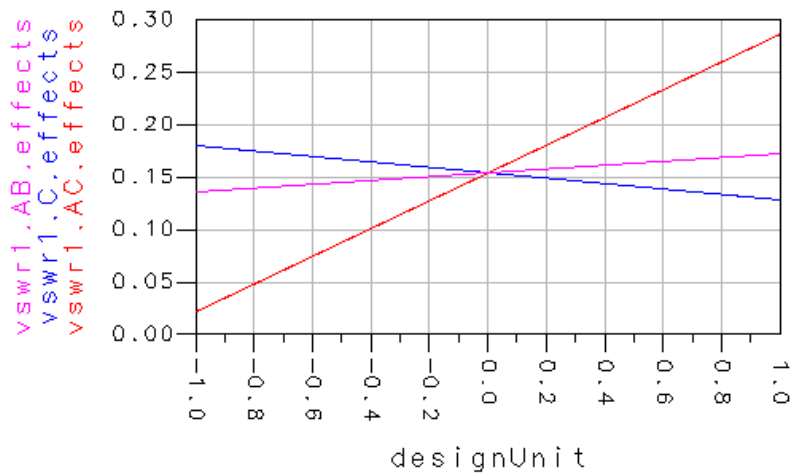
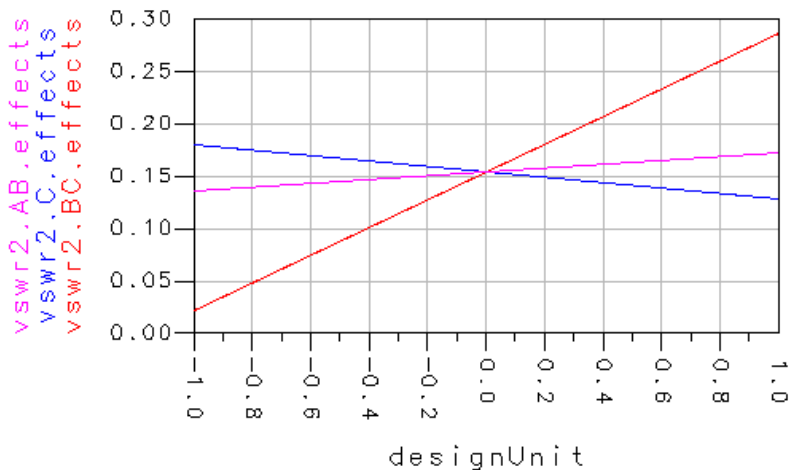
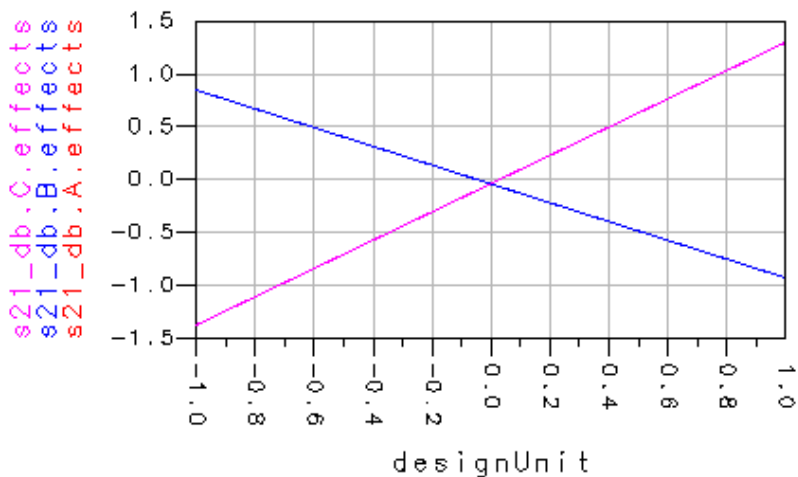

Figure 4-15. Effects Plot for Vswr1
Figure 4-16. Effects Plot for Vswr2
Figure 4-17. Main Effects Plot for S21
2. Repeat steps 1-5 to obtain similar plots for the first three effects of S21 and Vswr2. The Effects plots for Vswr1, Vswr2, and S21 are shown in Figure 4-15, Figure 4-16, and Figure 4-17, respectively.